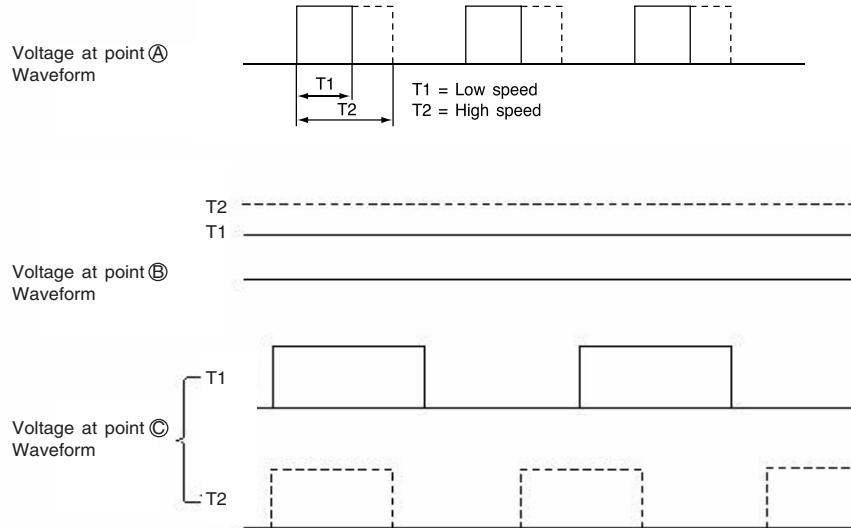

Fig. 7-2
- For the point A , 15.7 kHz PWM pulse will be output from the pin ⑨ on the micro computer as shown in Fig. 7-2. The pulse range will vary with different command speed.